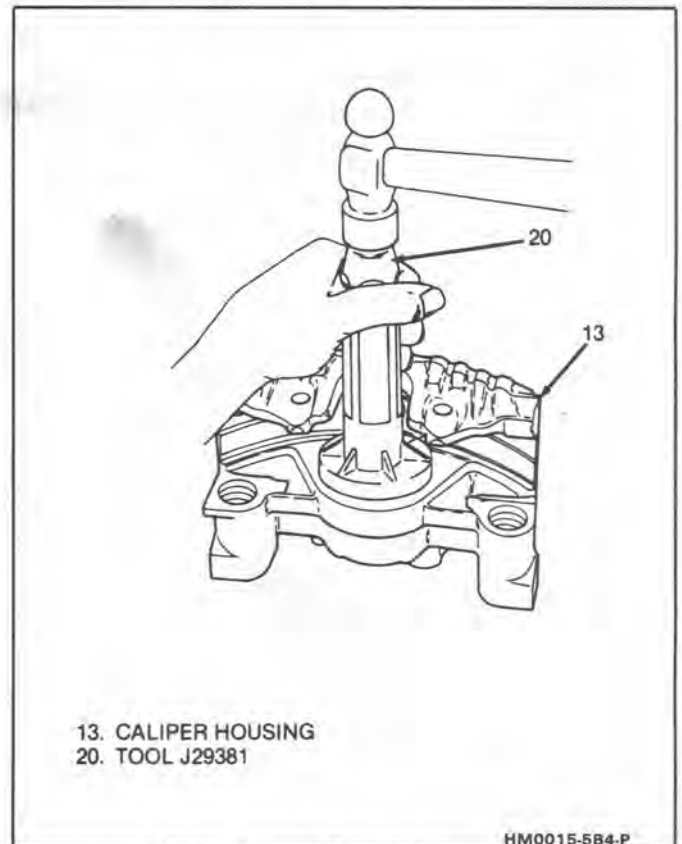

Fig. 15 Seating Boot Into Housing
5. Seat boot (7) in caliper housing (13) counterbore using J 29381 (Figure 15).